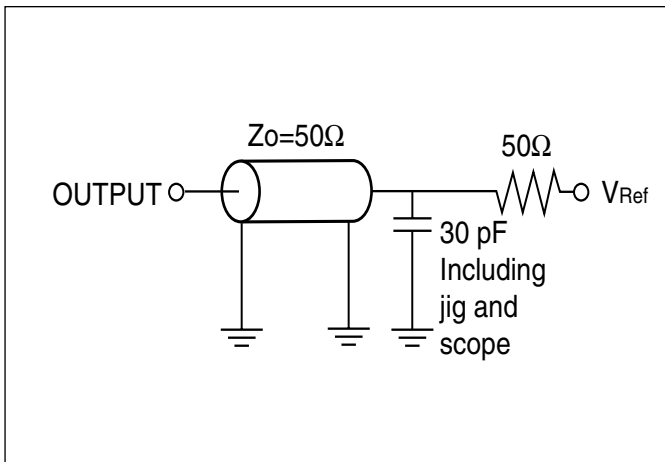

Figure 1a.
1. Test conditions assume signal transition times of 1.5 ns or less, timing reference levels of 1.25V, input pulse levels of 0V to V_{DD} V and output loading specified in Figure 1a.
1. Test conditions for IS61WV3216BLL assume signal transition times of 1.5ns or less, timing reference levels of 1.25V, input pulse levels of 0V to V_{DD} V and output loading specified in Figure 1a.